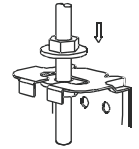

Fig.1-5
- Locate the air conditioner firmly by wrenching the nuts after having adjusted the body's position well. (Refer to Fig.1-5)